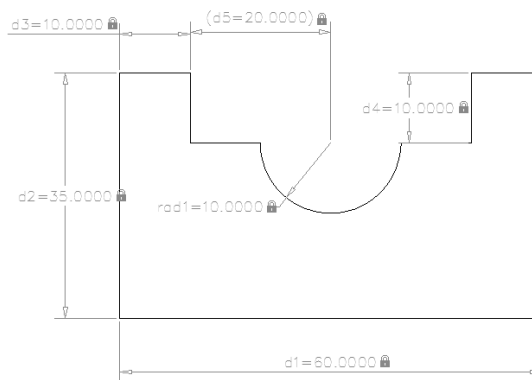

Figure 1-28 Sketch with all dimensional constraints
10. Similarly, apply the dimension to the horizontal and vertical lines, refer to Figure 1-28 and change the value to **10**.
14. Choose the **Create a reference dimension** option from the message box. The value **20** is displayed in parenthesis stating that it is a reference dimension. The sketch after applying all dimensional constraints is shown in Figure 1-28.